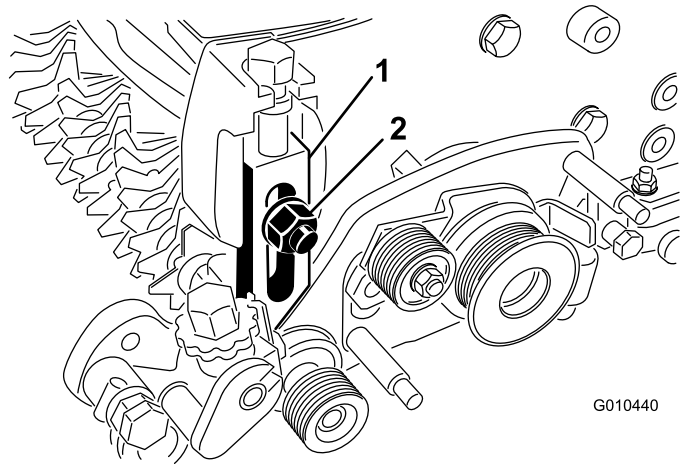

Figure 32
- Remove the carriage bolt, nut, and washer securing the height-of-cut arm assembly to the sideplate (Figure 32).